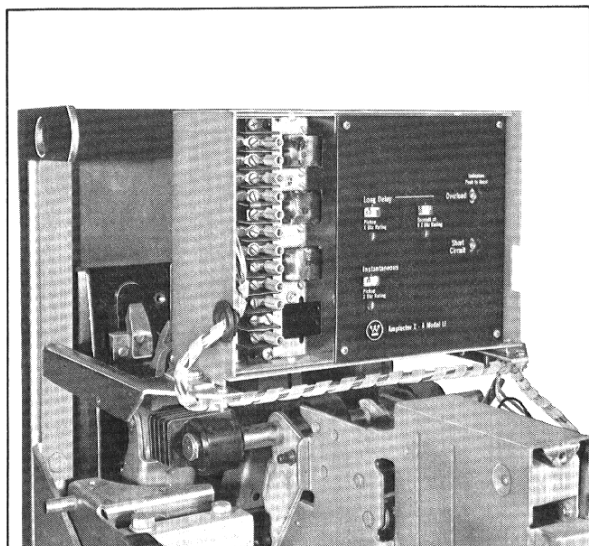

Fig. 12 *Amptector Mounted with Wiring Harness*
- The Amptector is now mounted between the brackets using .25-20 x .5 fil. hd. screw, washers and the .25-20 threaded hole in the bracket, Fig. 12.
3. Slide the grommet over the front end of harness, connect colored wires to the Amprector per wiring diagram, then place grommet into split hole on the left side of Amprector. Attach the harness to the front of the Amprector using the nylon clamps and .164-32 x .50 mach. screws, nuts and washers, see Fig. 12.